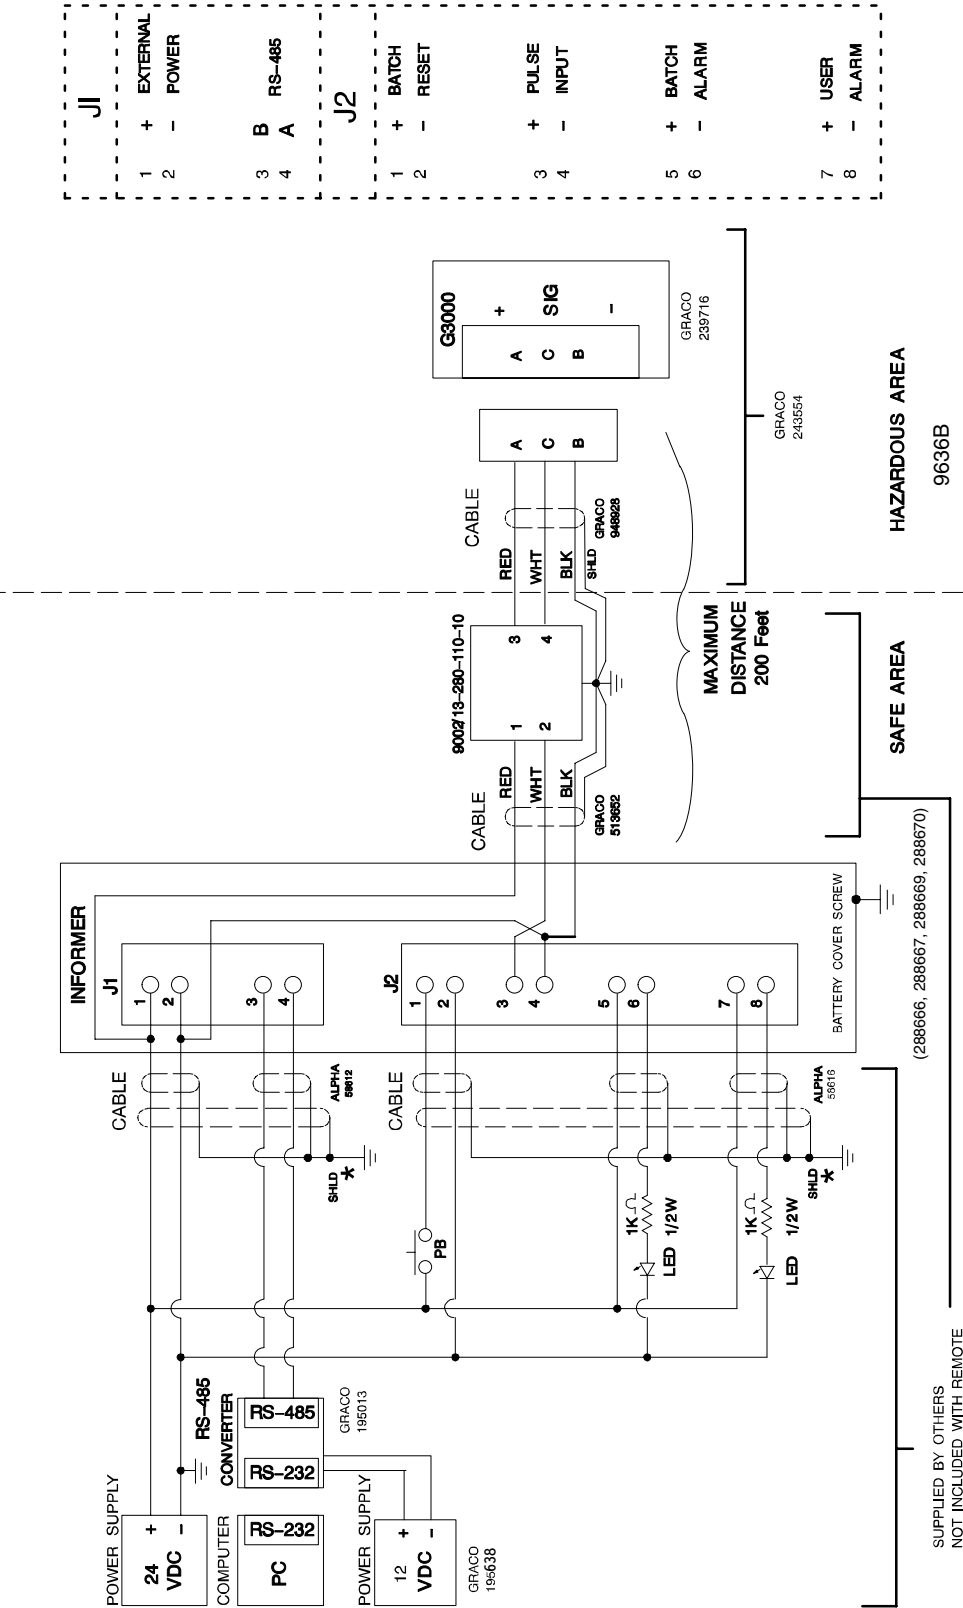

Fig. 4
The Graco Informer display and fluid flow meter, are intrinsically safe for Class I; Division 1; Group D hazardous indoor (NEMA 12) locations when installed as shown in Fig. 4, page 10; “Typical Installation: Remote Informer Display in Non-hazardous Area, Meter in Hazardous Area”. Refer to ANSI standards ISA-RP12.6, NEC Article 504 and the Canadian Electrical Code Appendix F.
- To install an intrinsically safe flow meter in a hazardous area and the Informer display in a non-hazardous area, refer to Fig. 4, page 10.